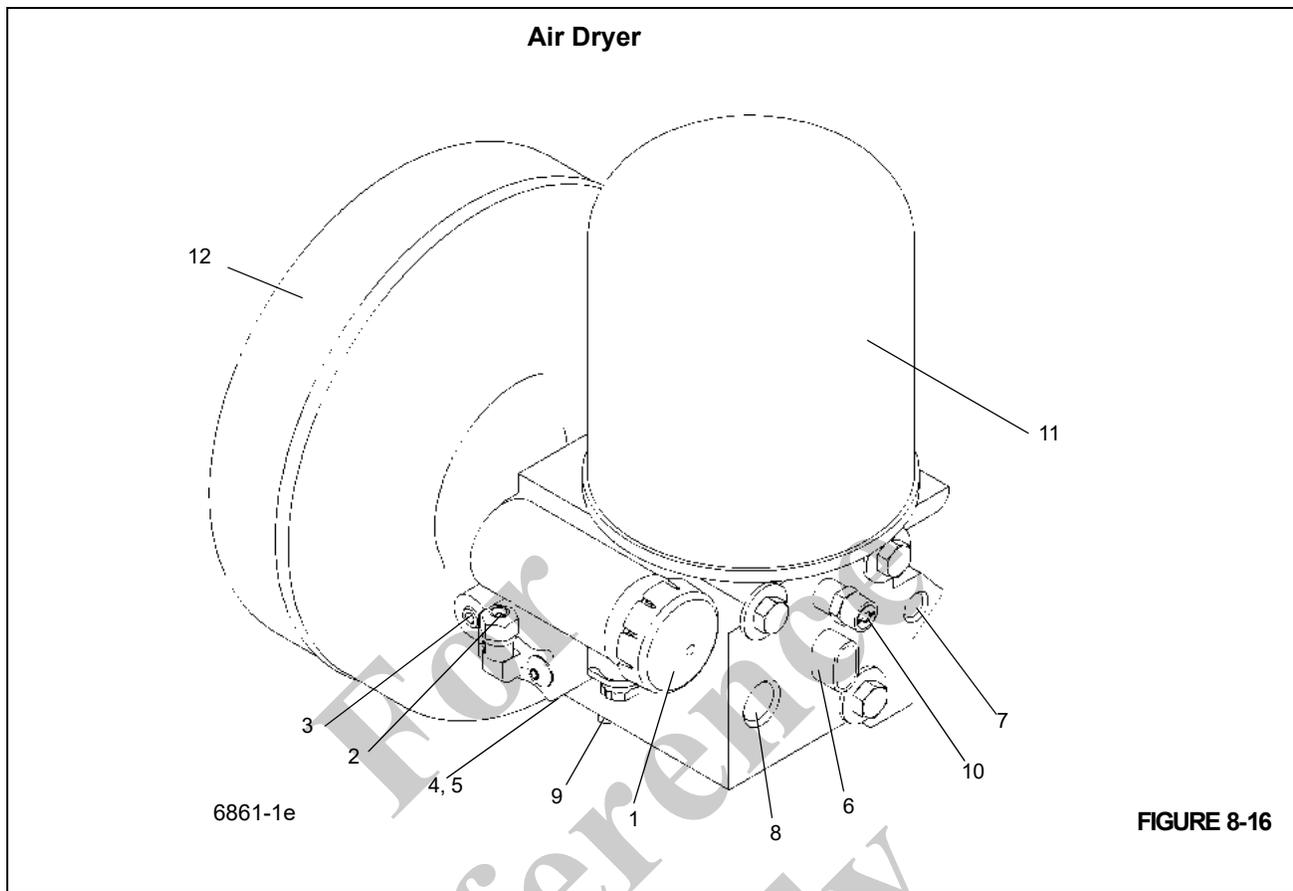

FIGURE 8-16
1. Drain all reservoirs to zero (0) psi by opening the drain valves. If not already applied, the parking brake will be applied as the system is drained. Make sure that the parking brakes are applied on all rear wheels.
- a. The low air pressure indicator (Figure 8-16) should be on, and an audio warning should be on until both pressure gauges indicate 414 to 483 kPa (60 to 70 psi) air pressure.
The purpose of the air dryer (Figure 8-16) is to collect and remove solid, liquid, and vapor contaminants from the air system. Clean dry air increases the life of the air system and reduces cost.
The Air Dryer, with integral governor (Figure 8-16), consists of a spin-on desiccant cartridge to collect and remove air system contaminants before they enter the brake system. The base contains a check valve, safety valve, heater and